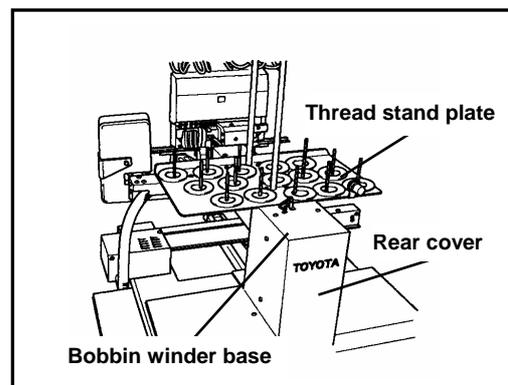

FIG.2
- (3) Remove each setting screws and the thread stand plate, bobbin winder base and rear cover. (Fig.2)
- (4) Cut the cable tie and remove the relay harness.